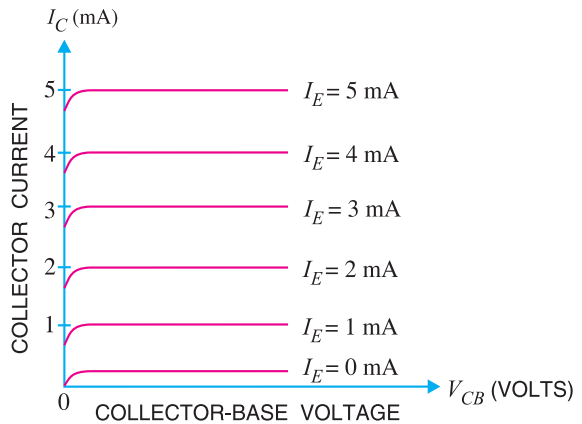

Fig. 8.15
2. Output characteristic. It is the curve between collector current I_C and collector-base voltage V_{CB} at *constant emitter current I_E . Generally, collector current is taken along y-axis and collector-base voltage along x-axis. Fig. 8.15 shows the output characteristics of a typical transistor in *CB* arrangement.